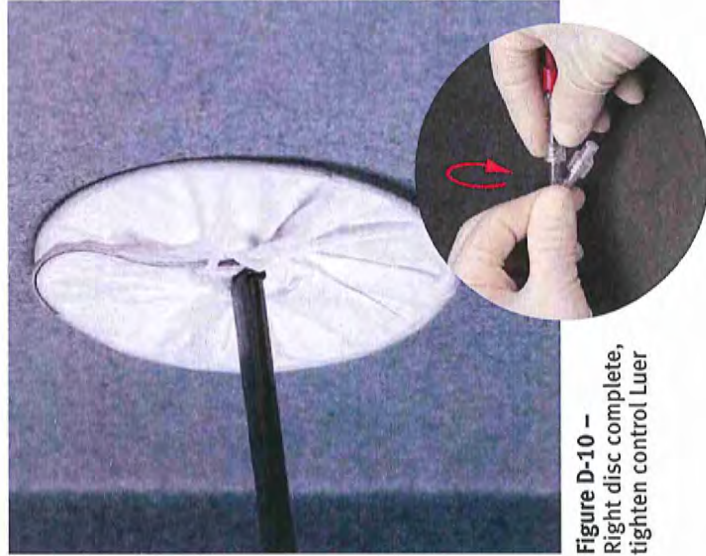

Figure D-10 –
- Tighten the Gray Control Catheter Luer (Fig. D-10).